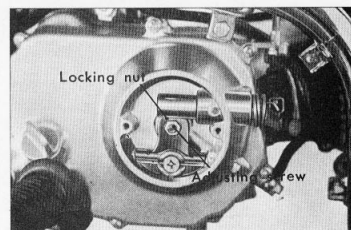
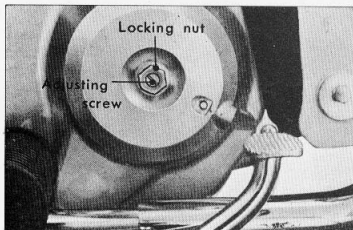

Figure 6-24. Adjusting the clutch (S50, S65)
Figure 6-25. Adjusting the clutch (C50, C50M, C65, C65M)
(1) For model C50, C50M, C65 and C65M check for slippage of the clutch and the disengaging action.
(2) For adjusting the clutch on model S50, S65 remove the clutch cover, loosen the locking nut and adjust with the screw. (Fig. 6-24) The adjustment of the clutch may also be performed at the adjuster on the clutch cable. On C50, C50M, C65 and C65M model, the adjustment can be made without removing the clutch cover. (Fig. 6-25)